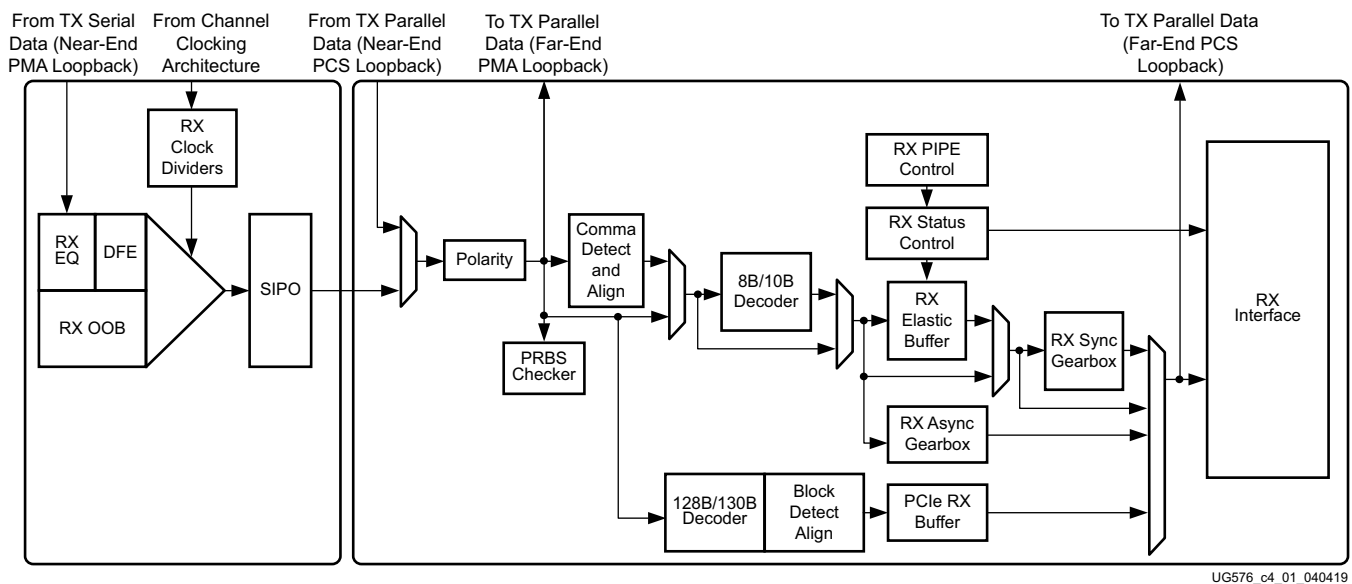

Figure 4-1: GTH Transceiver RX Block Diagram
This section shows how to configure and use each of the functional blocks inside the receiver (RX). Each GTH transceiver includes an independent receiver, made up of a PCS and a PMA. Figure 4-1 shows the blocks of the GTH transceiver RX. High-speed serial data flows from traces on the board into the PMA of the GTH transceiver RX, into the PCS, and finally into the interconnect logic. Refer to Figure 2-11, page 45 for the description of the channel clocking architecture, which provides clocks to the RX and TX clock dividers.